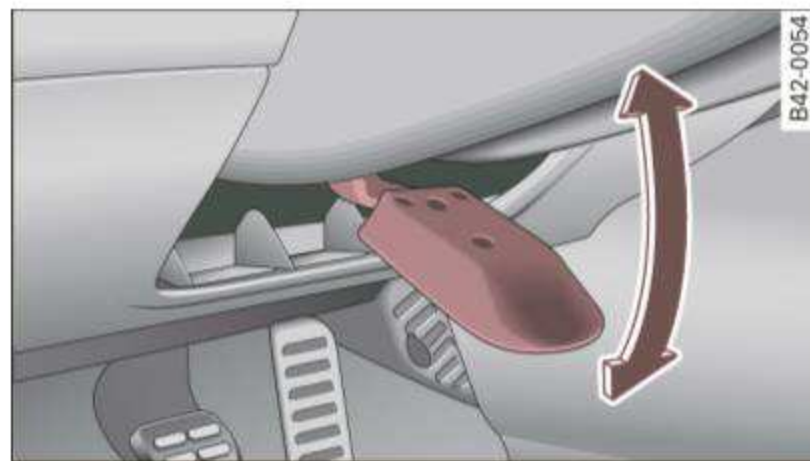

Fig. 65 Lever under the steering column
- Push the lever ⇒ fig. 65 down ⇒ ⚠.